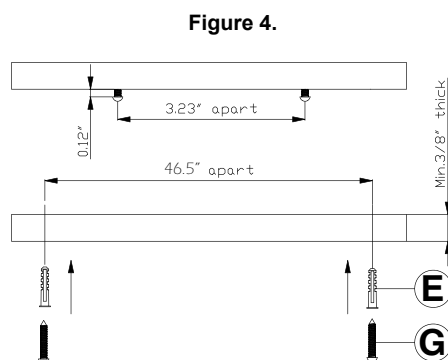

Figure 4.
1. Install 4 screws (G) on the mounting face with length spacing of 46.5" and width spacing of 3.23". Leave approximately 0.12" between the surface and screw. (Recommend to use screws with wall anchors (E) if mounting onto plaster board). See Figure 4.